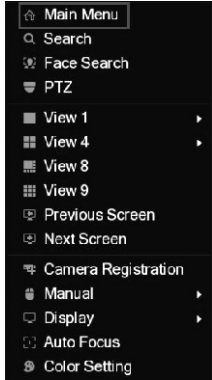

Figure 4-1
Step 1 In the live view screen interface, right-click anywhere on the screen. The shortcut menu is displayed. See Figure 4-1.
Step 1 In the live view screen interface, right-click within the live view window of the camera that you want to configure. The shortcut menu (Figure 4-1) is displayed.